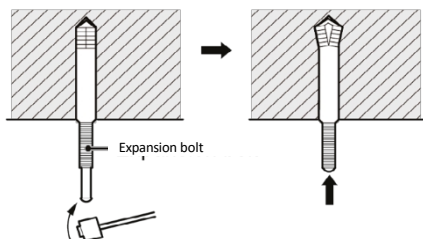

Fig. 4
- (2) Insert the M10 expansion bolt into the hole, then drive the nail into the bolt, as shown in Fig. 4.